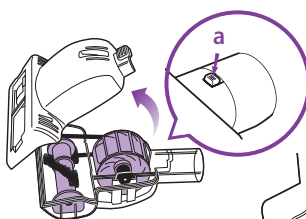

Fig. 27
- 1 Slide the locking latch **(a)** forward and tilt the bottom cover upward to remove. **(Fig. 27)**